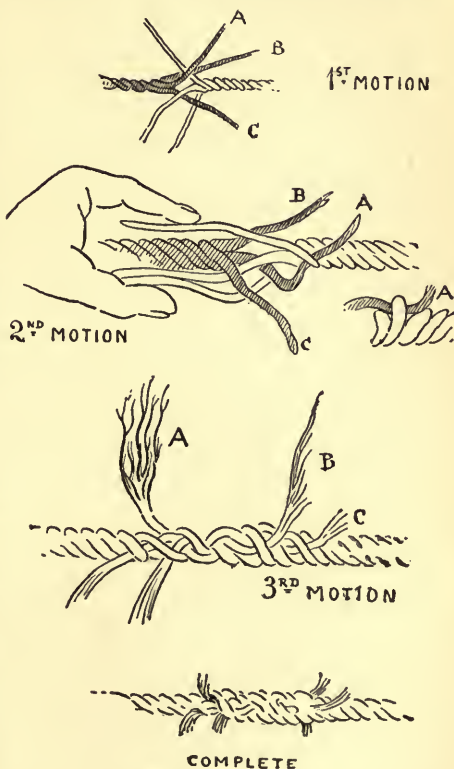

FIG. 2.—SHORT SPLICE.
2. The *short splice* is for joining two ends of rope together for ordinary use. This, too, though easily learned, is difficult to teach on paper. The accompanying diagrams (fig. 2) will, however, explain the principle of the method. *1st motion*: Unlay the strands of each rope and place the ends close together, so that the unlayed strands fit into each other as in the fig. *2nd motion*: Take the left-hand rope and the three strands of the right-hand one firmly in the left hand. Take the strand A, pass